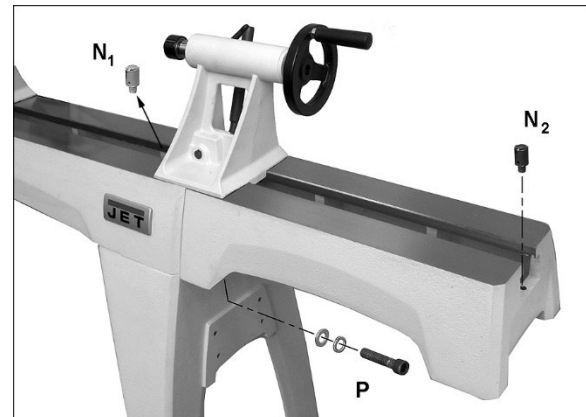

Figure 6
2. Have an assistant hold bed extension flush to end of lathe bed, and insert four 3/8" socket head cap screws with lock washers and flat washers, provided with the bed extension (P, Figure 6). Snug screws just enough to hold bed extension to lathe bed.